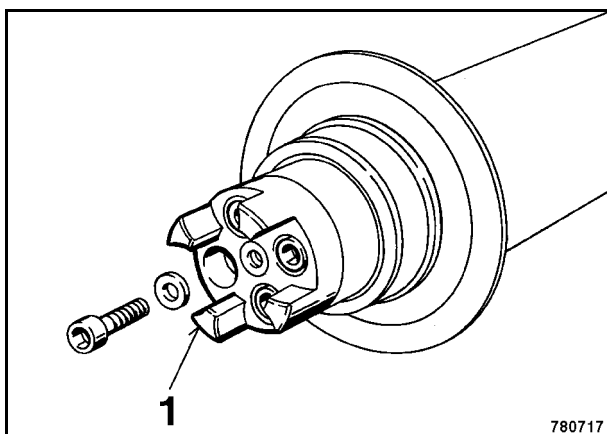

Fig. 15
23. Pull coupling hub 1 (Fig. 15) off the exciter shaft.